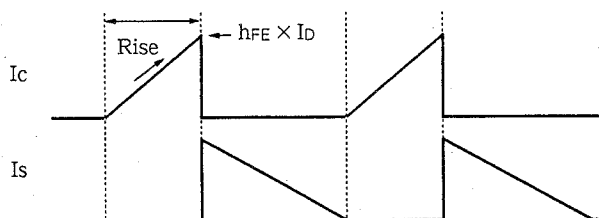

Fig. 13-8 Relations between I_c and I_s
- ① The input AC power is rectified and input to the switching circuit as V_{IN} .
- ② In the switching circuit, starting current I_1 flows to the base of the Q651 through the R258 resistor for starting and C715 capacitor. When the starting current I_1 flows, the Q651 is activated, and I_c starts flowing.
- ③ The I_c linearly increases as shown in Fig. 13-8. On the second side, a starting power is generated at the winding S to make the current I_s' flow, but it is blocked by D_s , and the I_s' does not flow.
- ④ At the same time the starting power is also generated at the base drive winding B, and the drive current I_D flows. Then the Q651 is instantaneously set to ON.
- ⑤ The I_c continues increasing to the point, $I_c = h_{FE} \times I_D$, where is the limit of the base drive current I_D .
- ⑥ When the increasing curve of the I_c is suppressed, counter electromotive force is generated on the base drive winding B. The V_{BE} of the Q651 is drastically biased invertedly by this counter electromotive force and the Q651 is instantaneously set to OFF.
- ⑦ At the same time, starting power is generated in the direction reversed in step ③ on the winding S of the second side. The I_s flows by this counter electromotive force. While the I_s is flowing, starting power is generated in the direction which is biased reversely between base and emitter of the Q651 on the base drive winding B.
- ⑧ When the starting power of the winding S is lost and the I_s does not flow, the starting power of the base drive winding B is also lost. Then the current I_1 flows, and the operation of step ② and after will be repeated, and the switching operation will continue. (Once started, the voltage is induced on the base drive coil by the interaction of coils of the transformer and the Q651 is set to ON again. Therefore switching will continue even if the R258, C715, D659, C721 and R266 are removed.)
When the change occurs on 135V on the output side, the change is amplified by the Q662, and input to a photocoupler (IC651) as I_a . In this photocoupler, a charging section and a non-charging section are coupled unelectricaly so that GND of both sections are not connected. The error output sent by the IC651 photocoupler is transmitted to the Q652 and Q653 pulse width control circuit. In this circuit, the pulse width of the I_c shown in Fig. 13-8 is changed so that the change of 135V is reduced.